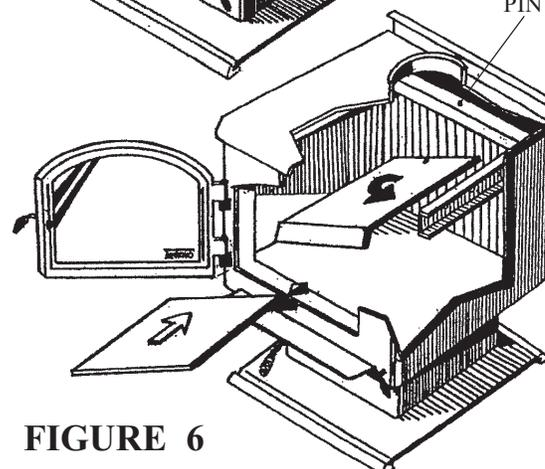

FIGURE 6
8. To install the baffle, reverse Steps 1 through 7. The hole in the baffle must be on its alignment pin on the rear shelf. See **Figure 6**.